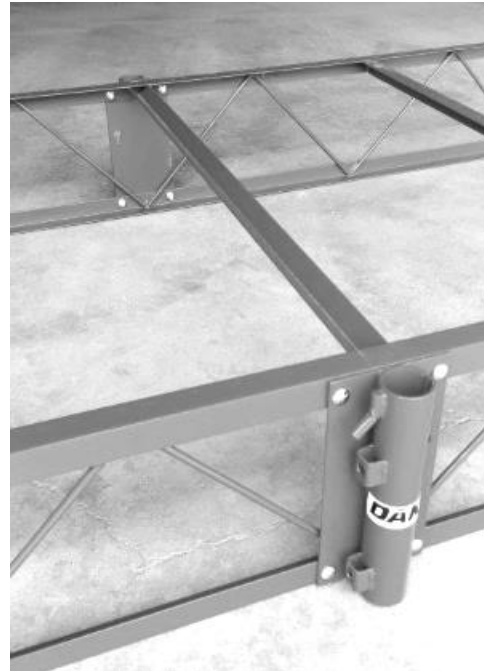

FIG. 6B: Steel Sleeve Brackets
Install the (2) ea. Upright Sleeve Brackets in the center of the section as shown in FIG. 6B. Note that the sleeve is turned the correct way so the hook is at the top side of the frame.